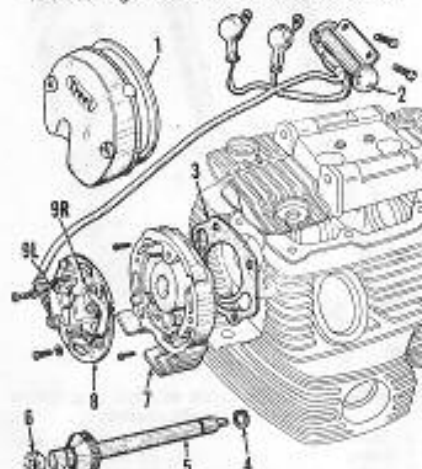

Fig. HN8-4—Exploded view of Type I ignition breaker points assembly. The automatic ignition advance mechanism is between the valve camshafts.
Fig. HN8-6—Exploded view of Type II ignition breaker assembly. The automatic ignition advance mechanism is between the valve camshafts. Refer to Fig. HN8-4 for legend.
The breaker contact points are accessible after removing cover (1—Fig. HN8-4 or HN8-6). Adjust breaker point gap to 0.3-0.4mm (0.012-0.016 inch). Condenser (2) is mounted on cylinder head cover. Condenser capacity should be 0.21-0.27 mfd.
To check or adjust ignition timing, proceed as follows: Remove breaker contact cover (1—Fig. HN8-4 or HN8-6) and adjust point gap to 0.35mm (0.014 inch). Remove generator cover